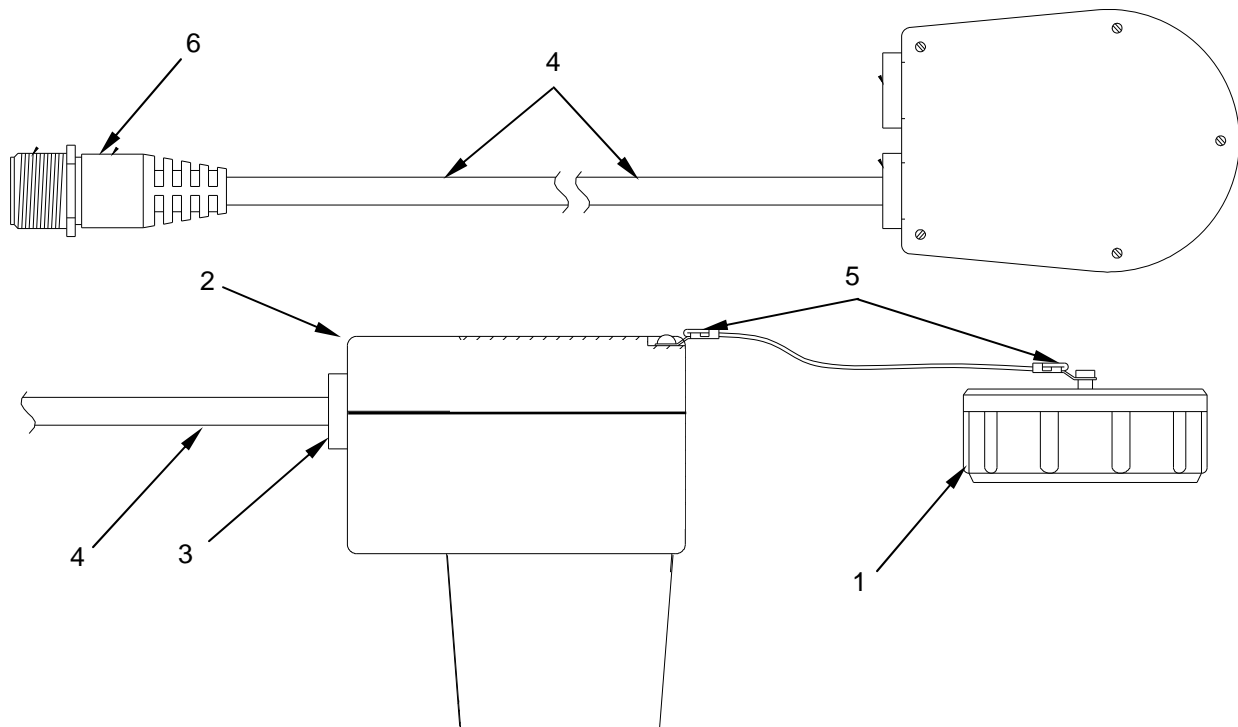

Figure 1. Inspect the NATO Adapter Cable.
1. Remove the outer cap (Figure 1, Item 1) of the large power connector (Figure 1, Item 2) and inspect the interior surfaces for any dirt, damage, or corrosion that would prevent a good electrical connection.
2. Inspect the connection point (Figure 1, Item 3) between the large power connector (Figure 1, Item 2) and the cable (Figure 1, Item 4) for any cracks, separations, or exposed wires. Inspect the length of the cable jacket (Figure 1, Item 4) for any cracks, cuts, or other damage that would expose the inner wires.
3. Inspect the small power connector (Figure 1, Item 6) for any cracks, dents, or damage to the outer collar that would prevent a proper and secure electrical connection.
4. Inspect the interior surfaces of the connector (Figure 1, Item 6) for dirt or damage to the internal contacts.
5. Ensure that the outer cable jacket (Figure 1, Item 4) is securely attached to the connector and that there are no exposed wires.
6. Inspect the cap lanyard (Figure 1, Item 5) is secure and not showing signs of deterioration.